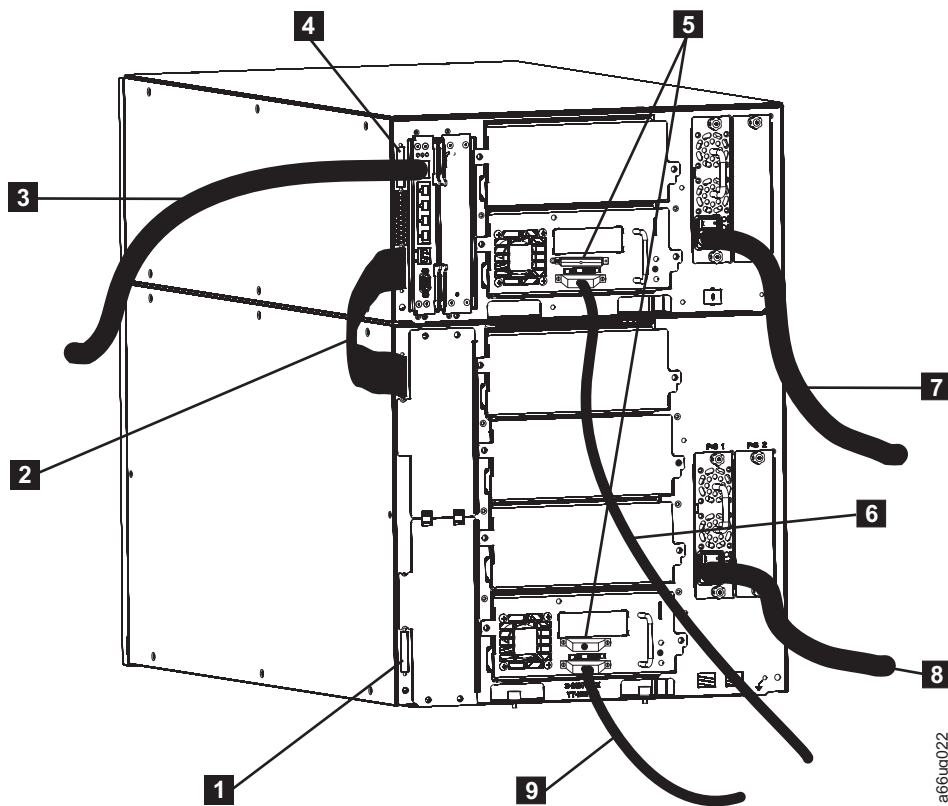

Figure 3-18. Cabling of a 14U library containing multiple SCSI drives
1. Install a module communication terminator in the upper receptacle of the upper module of your library (**4** in Figure 3-18 on page 3-20).
2. Install one end of the module-to-module communication cable (**2** in Figure 3-18 on page 3-20) in the lower receptacle of the upper module of your library, then install the other end in the upper receptacle of the lower module of your library.
3. Install a module communication terminator in the lower receptacle of the lower module of your library (**1** in Figure 3-18 on page 3-20).
4. Install one end of the customer-supplied Ethernet cable (**3** in Figure 3-18 on page 3-20) in the Library Control Blade Ethernet port, then connect the other end of the cable to your network.
- Install a SCSI terminator (**5** in Figure 3-18 on page 3-20) in the upper receptacle of each SCSI drive in your library.
- Connect one end of a SCSI cable to the lower receptacle of each SCSI drive (**6** in Figure 3-18 on page 3-20), then connect the other end of the cable to the host.
6. Install one end of the power cord (**7** and **8** in Figure 3-18 on page 3-20) in the receptacle of a power supply in your library, then connect the other end of the cord to your power source. Repeat this for every power supply in your library.
7. Install one end of the power cord (**7** and **8** in Figure 3-18 on page 3-20) in the receptacle of a power supply in your library, then connect the other end of the cord to your power source. Repeat this for every power supply in your library.